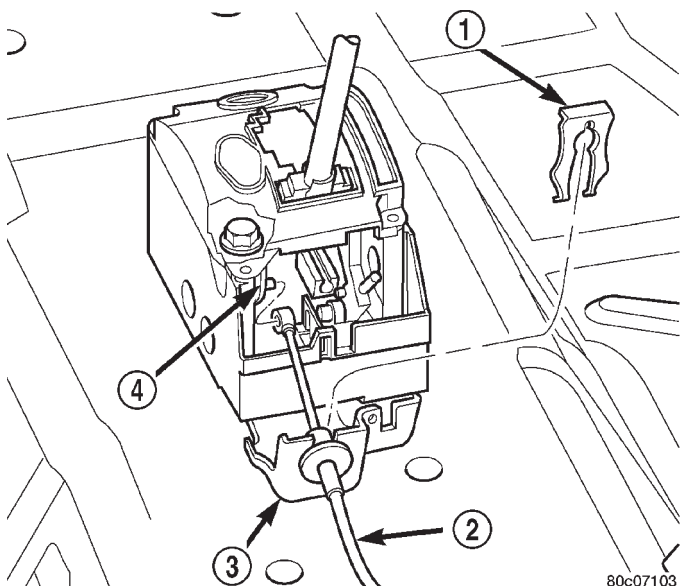

Fig. 60 Shift Cable Removal/Installation
(4) Disconnect shifter cable from shift pin (Fig. 60) and disconnect cable from shifter assembly bracket.
- (4) With the ignition in the lock position, attach shift cable eyelet to shift pin (Fig. 60).
- (5) Install shift cable to shifter assembly bracket (Fig. 60).